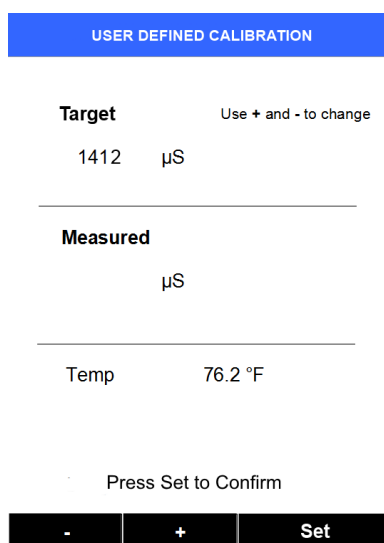
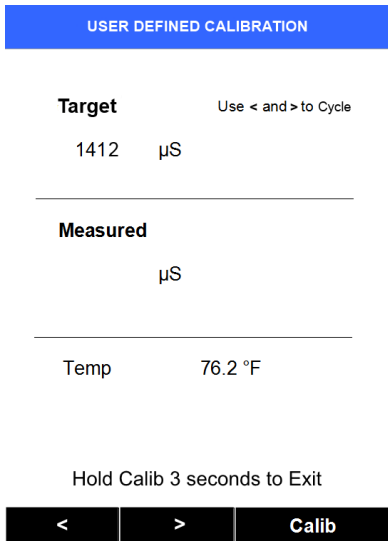
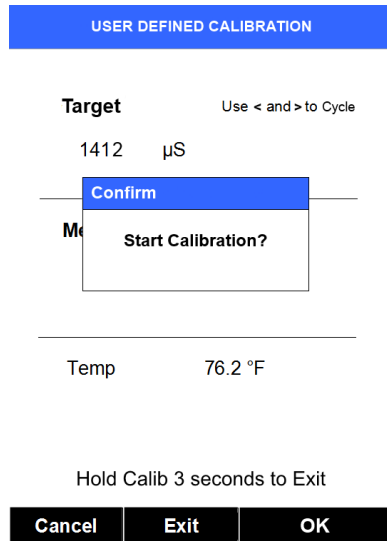

Figure 16
Figure 17
Figure 18
- 5) Use the < or > keys to cycle to the User Defined calibration. With each press various elements of the display will update, such as the calibration title, the type (“Target”), and the black bar. When the User Defined calibration is selected the screen will appear similar to Figure 16.
- 6) If the displayed **Target numeric value** is not that desired, use the **- and + labeled keys (< or >)** to adjust the value to that desired. Holding them down will scroll the values at a speedier rate. Once the value is as desired, **press Set (OK)** to confirm the numeric value to be used. Ensure the selected value matches the standard being calibrated with. The black bar will update as in Figure 17 (it now shows Calib rather than Set). **Press Calib (OK)**. The screen will update to Figure 18 with the Confirmation popup.
- 1) If the initial displayed numeric value for the User Defined target in Figure 16 is that desired, then a short key press path (including power on) are: OK, >, <, OK, OK, OK, and a long 3 second press of OK to return to read mode. (Using < here will go directly to User Defined rather than all possible target calibration types.)
- 3) If in Figure 16, the user defined numeric value must be adjusted, additional use of + or – (as < or >) in Step 7 will be required, in addition to the keys listed in Quick Tip 1.
- 4) Once the target selection focus has been moved to User Defined as in Figure 16 and show the - and + labels on the black bar, the keys are no longer set to cycling through the calibration types but to adjust the User Defined numeric value. To get back to being able to cycle the types, you must go forward to the pop up screen of Figure 18 and Exit. From Figure 16, press OK, twice (once as Set and once as Calib), until the pop up appears. Then press > (Exit). (“Cancel” will return you to adjusting the User Defined target numeric value.) Press C-CAL and you will be able to cycle through the conductivity calibrations as desired.